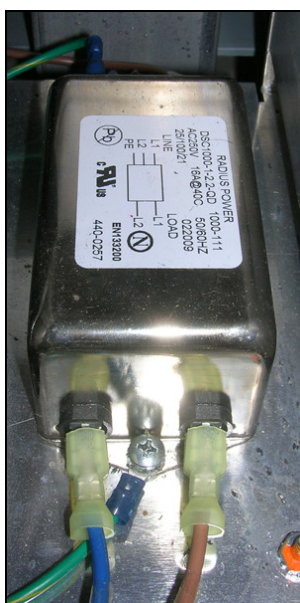
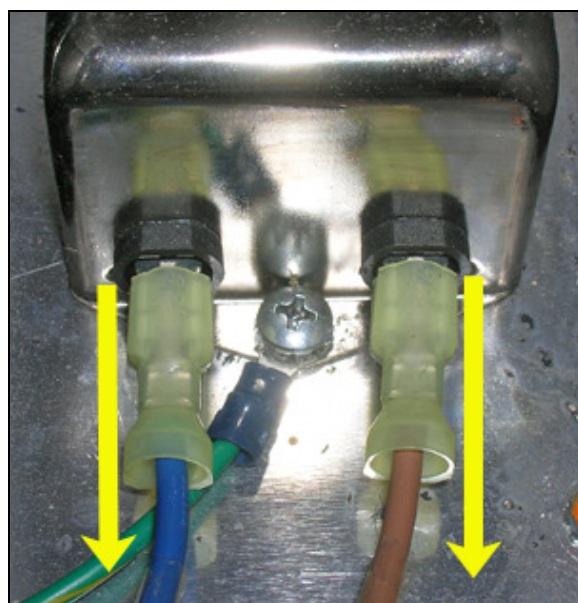

Fig. 1
Fig. 2
2. Locate the EMI Filter (Fig. 1) and disconnect the two wires that go to the MCB (Fig. 2).